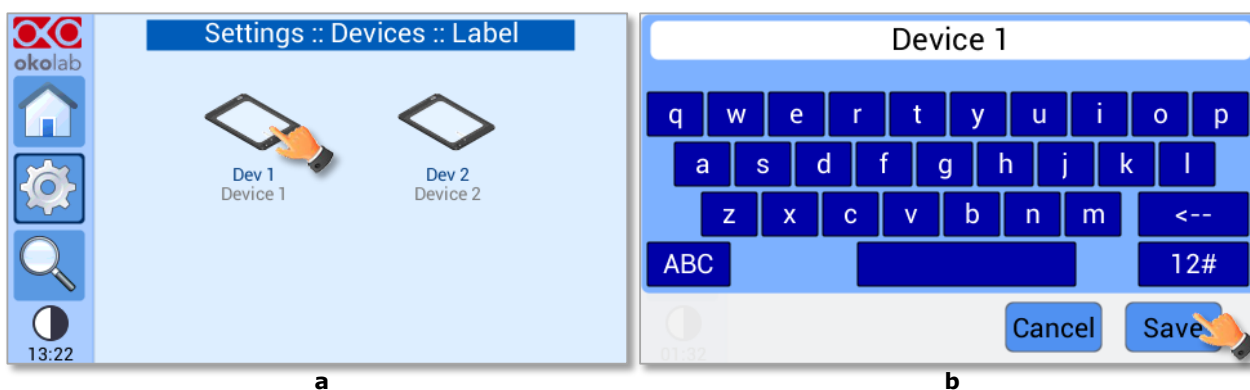

Figure 28. Device Label (a) Selection of the device; (b) Input of the label
- 2 Press on Dev1 or Dev2 icon in the subpage that will open as Figure 28(a).
- 3 Enter the desired label by using the keyboard that will appear, as shown in Figure 28(b). Press save or cancel to undo.